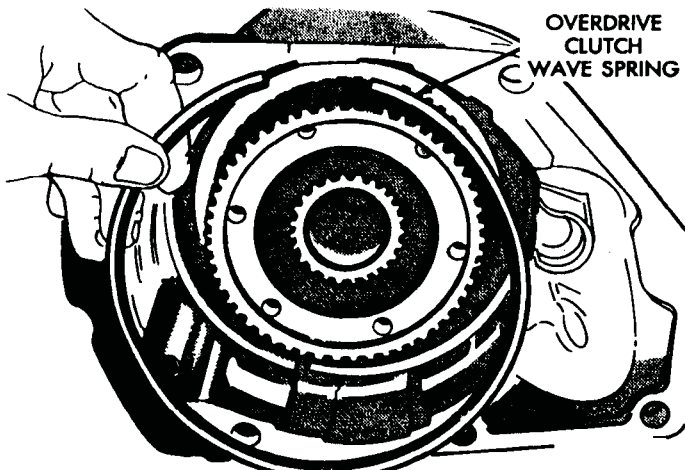

Fig. 7 Overdrive Clutch Wave Spring Removal
(7) Remove overdrive clutch wave spring (Fig. 7).